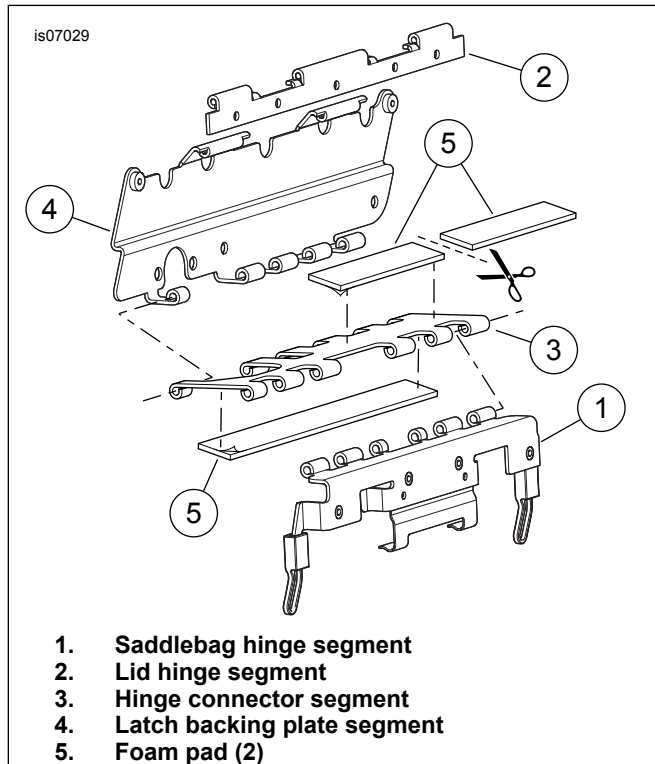

Figure 3. Install Foam Pads to Saddlebag Latch Hinge (Left Side Shown)
See Figure 3. The saddlebag latch hinge is shown with the pins removed for clarity.
15. Get two foam pads (Figure 7, Item 15) from the kit. Cut one piece in half as shown in Figure 3. Remove the liner from the adhesive backing of the **uncut** pad and affix to the flat side of the latch hinge connector segment (3). Remove the liner from the adhesive backing of one cut pad and affix to the hinge side of the latch connector segment as shown.